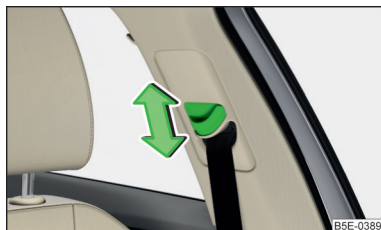

Fig. 7
- Press the seat belt height adjuster and move up or down in the desired direction » Fig. 7.